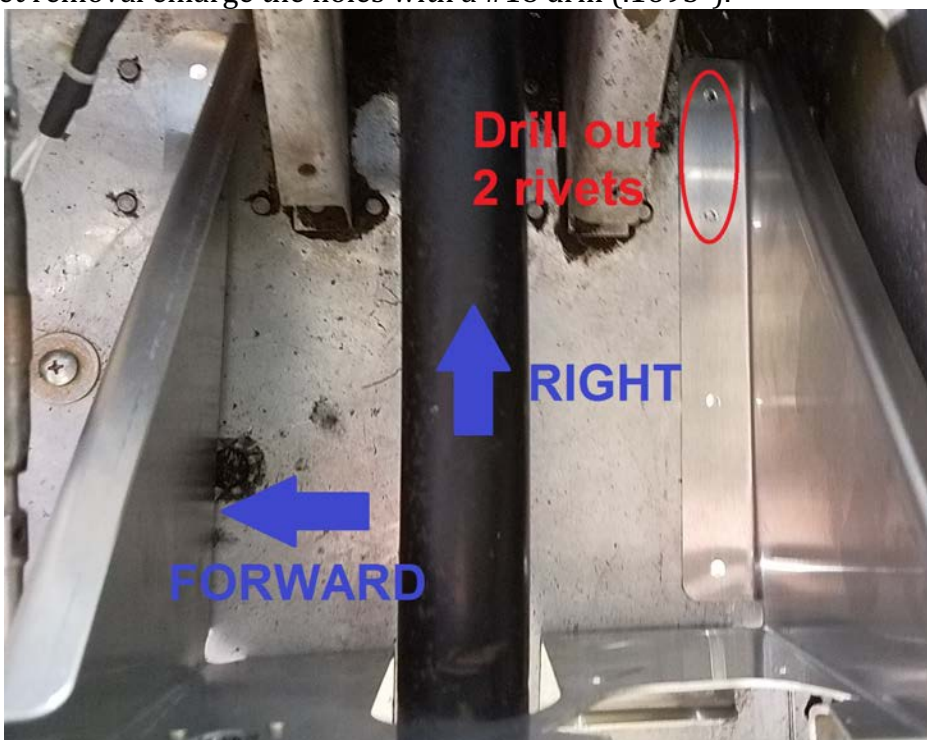

Figure 2-8
- 1.12. Remove the pitch bracket assembly (P/N 7200-103). Drill out 2 rivets through the lower fuselage skin in the locations shown in Figure 2-8. After rivet removal enlarge the holes with a #18 drill (.1695").